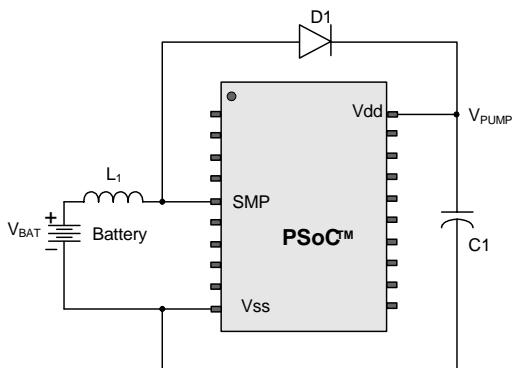

Figure 3-2. Basic Switch Mode Pump Circuit
a. $L_1 = 2 \mu\text{H}$ inductor, $C_1 = 10 \mu\text{F}$ capacitor, $D_1 =$ Schottky diode. See Figure 3-2.